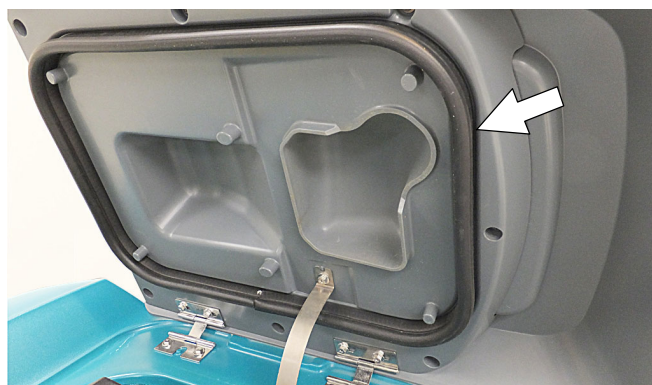

FIG. 102
4. Inspect and clean the seal on the recovery tank lid (Figure 102). Replace seal if damaged.